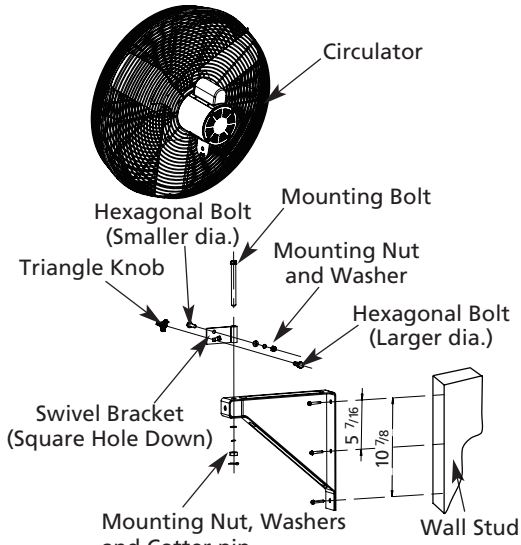

Figure 4 - Wall Mounted Assembly
(Refer to Figures 4 and 5.)
3. Position the swivel bracket on the wall/ceiling bracket as noted in step #1. Secure with the mounting bolt, flat washer, lock washer, and nut per Figures 4 & 5. Torque to 120-130 in./lbs. Finally, secure with the cotter pin through the mounting bolt hole. Position the swivel bracket in the motor yoke and align the pivot hole with the round hole in the swivel bracket.